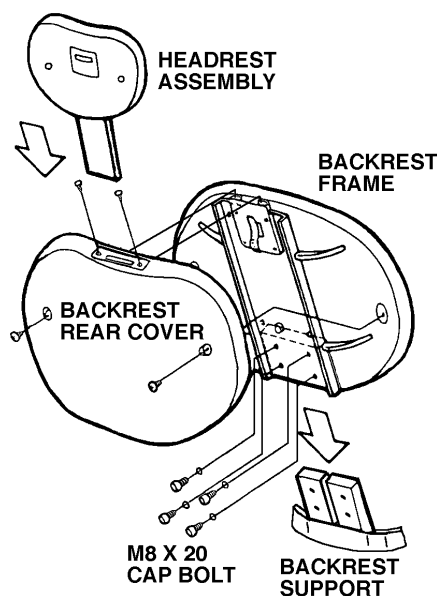

Fig.7-2 Assembling Backrest and Headrest
2. Assembling Backrest and Headrest (**Fig.7-2**)